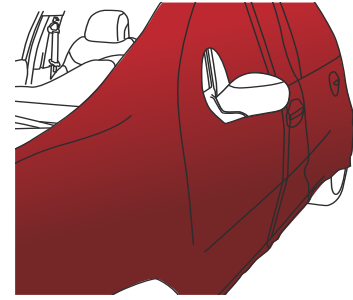

Figure 26
- › The film is now stretched over the entire surface area to be wrapped. Now you can apply the film (FIG. 26) as described in the paragraphs 4.2 to 4.4 according to the type of surface.